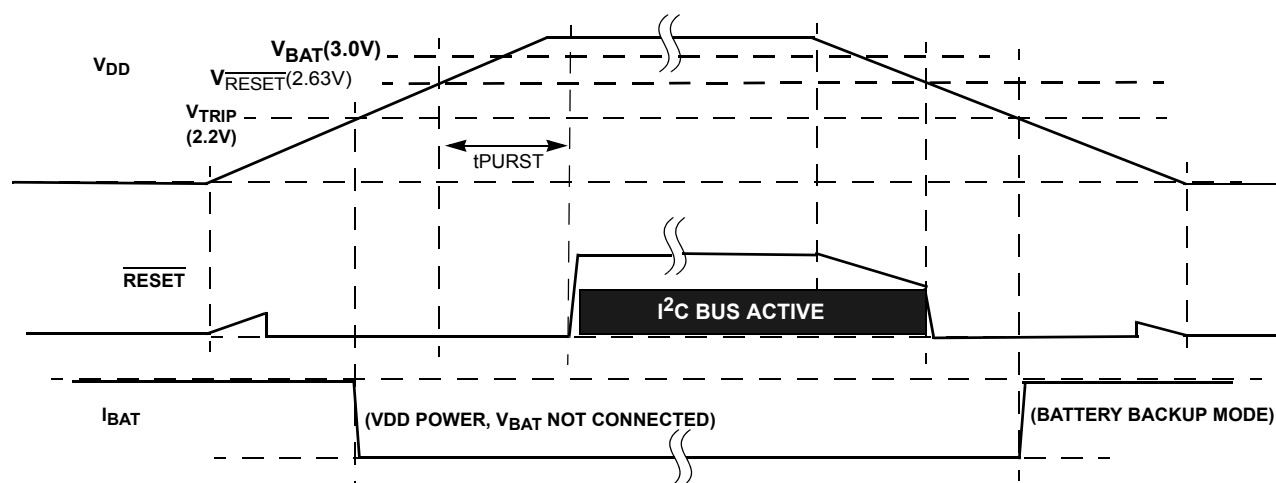

FIGURE 29. EXAMPLE RESET OPERATION IN MODE A OR C
- **Mode A** - In this mode selection bits indicate a low V_{DD} switchover combined with I²C operation in Battery Backup Mode. In actuality the V_{DD} will go below V_{RESET} before switching to battery backup, which will disable I²C ANYTIME the device goes into Battery Backup Mode. Regardless of the battery voltage, the I²C will work down to the V_{RESET} voltage (see Figure 29).
- **Mode D** - In this mode the selection bits indicate switchover to battery backup at $V_{DD} < V_{BAT}$, and no I²C communications in battery backup. This mode is unique in that there is I²C communication as long as V_{DD} is higher than V_{RESET} or V_{BAT} , whichever is greater. This mode is the safest for guaranteeing I²C communications only when there is a Valid V_{DD} (see Figure 29).